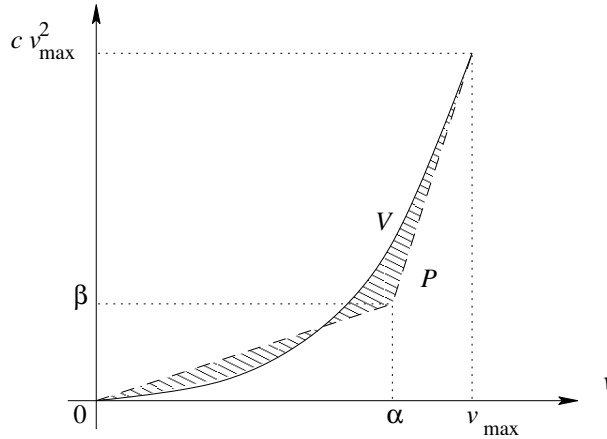

Figure 2: The quadratic function V and its PWA approximation P .
Step 1.2: Construct a piecewise affine (PWA) approximation P with 2 regions of the friction force curve $V : [0, v_{\max}] \rightarrow \mathbb{R} : v \mapsto v^2$ as follows. We want a perfect match for $v = 0$ and $v = v_{\max}$. This implies that we still have two degrees of freedom, i.e., the coordinates (α, β) of the middle edge point of the PWA curve (see Figure 2). Now determine α and β such that the *squared* area between V and P (i.e., the squared area corresponding the hashed region in Figure 2) is minimized, or equivalently, such that